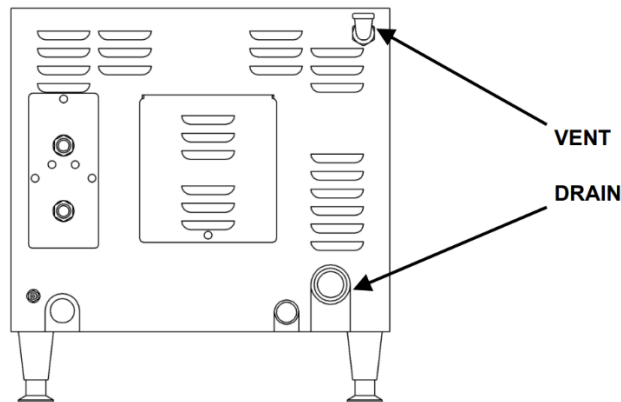

Figure 3-7 Steam Vent
1. Using pipe thread sealant (not provided), install the provided brass street ell into the bulkhead fitting on the rear of the 22CET. See Figure 3-7.